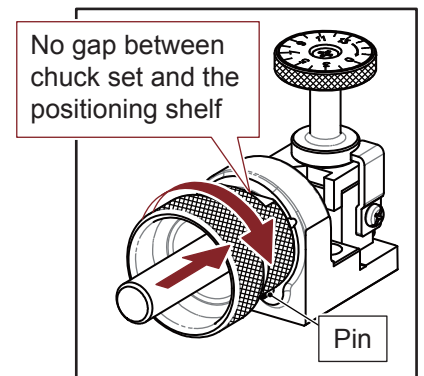

Fig. 7-2
3. Align slot of the clamping nut to the pin on the positioning shelf, then insert the chuck set into the positioning shelf and fit them with no gaps, then turn the chuck set clockwise until it stops by the pin. (Fig. 7-2)